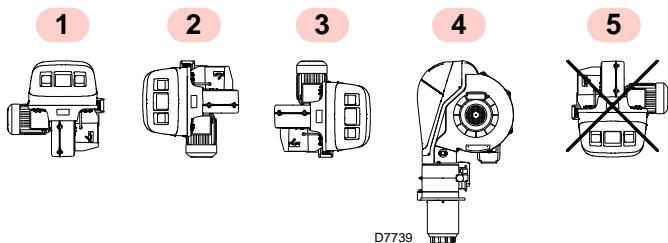

Fig. 13
- The burner is designed to operate only in positions **1, 2, 3** and **4** (Fig. 13).